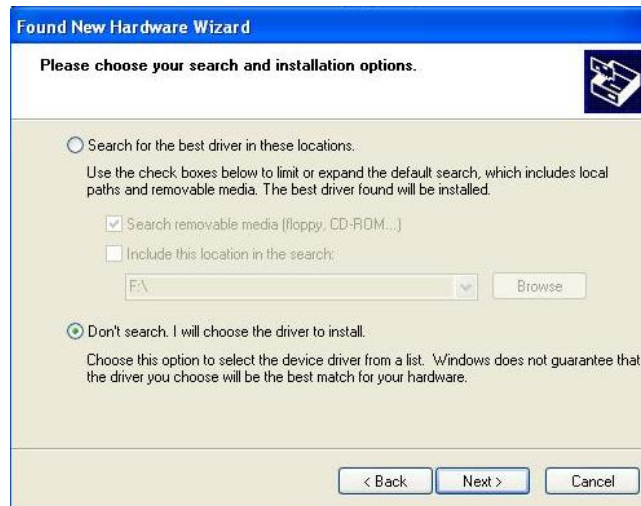

Fig.3.1.4 Driver installation wizard
- (3) Select "Don't search, I want to choose the driver to install by myself", click Next, as shown in Fig.3.1.4.